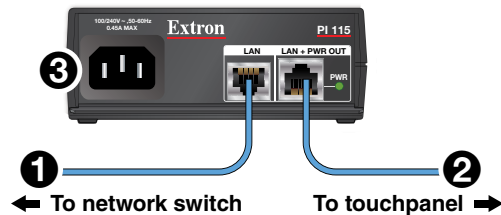

Figure 5. PI 115 Power Injector
These touchpanels must be powered by Power over Ethernet (PoE). Users must provide their own PoE power injector. Figure 5 shows the Extron PI 115. Your power injector may look different.
1. Connect a straight-through Ethernet cable from the power injector to a switch or router (see figure 5, ❶). This cable carries network information from the switch or router to the power supply.
2. Connect a second straight-through cable (❷) from the power injector to the touchpanel. This cable carries the network information and 48 VDC from the power injector to the touchpanel.
3. Connect the IEC power cord to a convenient 100 VAC to 240 VAC, 50-60 Hz power source (❸).